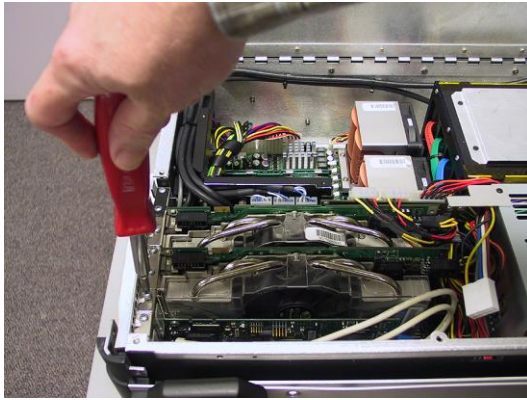

Figure 4-46
- 2) If you are replacing an existing PCI card, use a Phillips #2 screwdriver to remove the 6-32 screw attaching the card's retaining bracket to the inner chassis as shown in Figure 4-46. (If you are adding a new card, remove the corresponding blanking plate screw.)